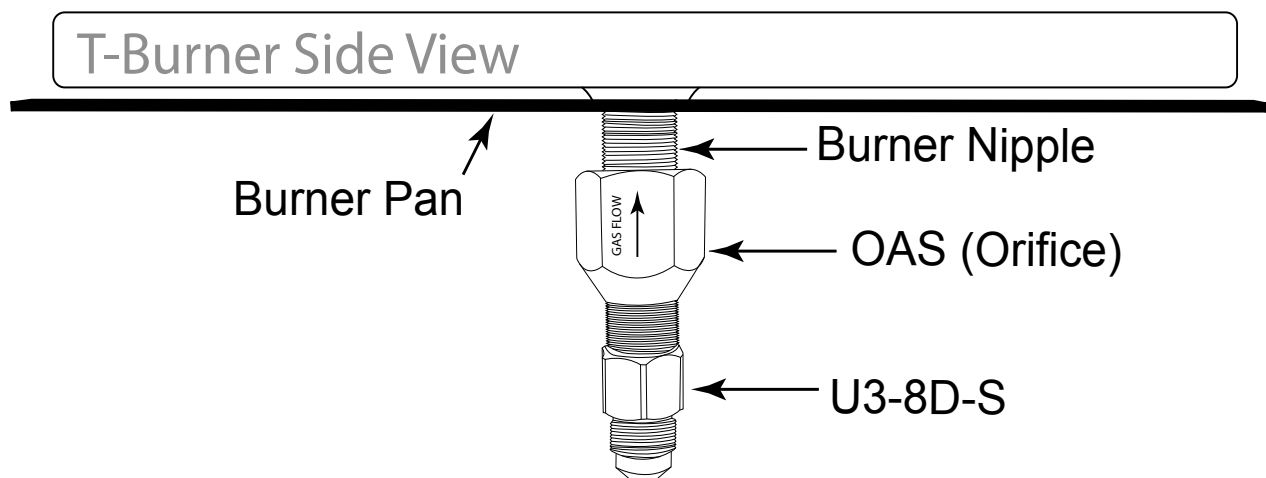
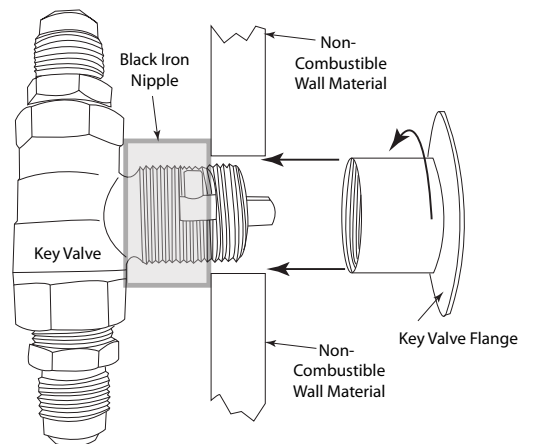

Fig. 4 T-Burner Installed into Burner pan/disc.
Fig. 5 Typical installation.
**Step 1:** Install the T-Burner through the pan (See Fig. 4) then install the OAS and U3-8D-S to the nipple connect inlet gas line as shown in Fig. 5.